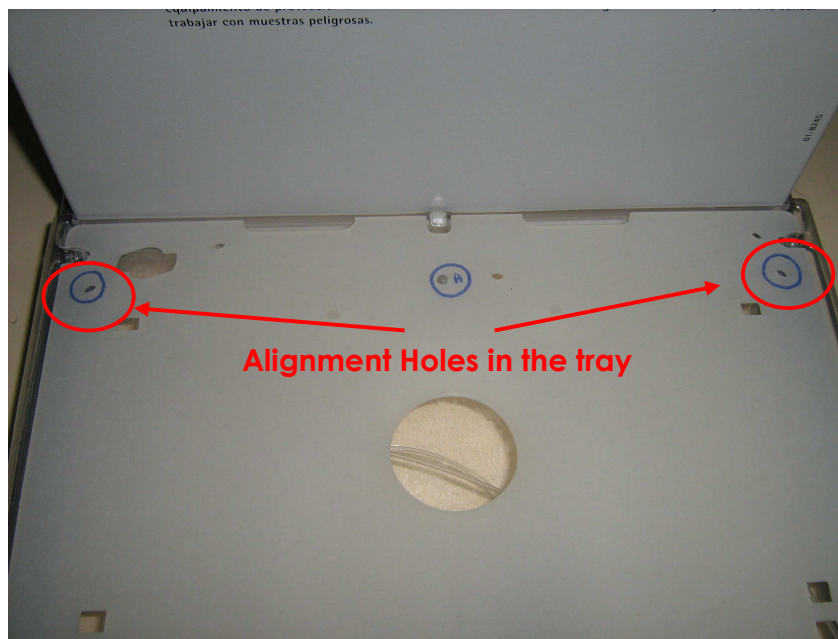
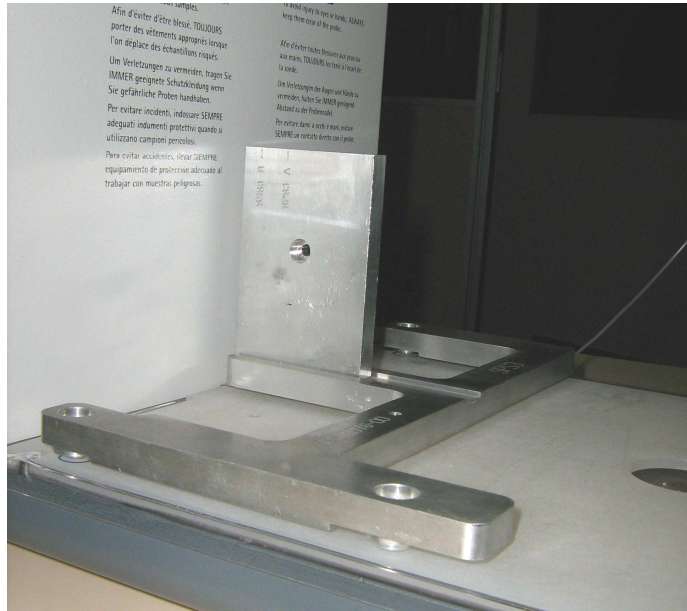

Figure 10: Holes in the Plate to Calibrate Point A
Figure 11: Alignment Tool in Position to Calibrate Point A
- Place the alignment tool on top of the sample rack tray holder in such a way that the top 2 feet (they will have a pointy bottom) slip into the two holes in the tray (Figure 10). Once the alignment tool is in place it should look like the one in Figure 11.